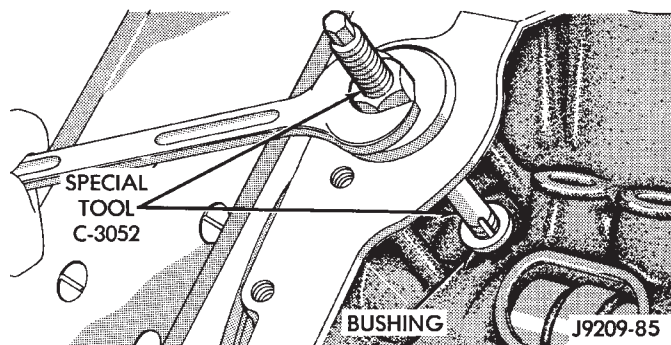

Fig. 33 Distributor Driveshaft Bushing Removal
- (1) Remove distributor, refer to Group 8D, Ignition Systems for the proper procedure.
- (2) Remove the intake manifold (refer to Group 11, Exhaust System and Intake Manifold).
- (3) Insert Distributor Drive Shaft Bushing Puller Tool C-3052 into old bushing and thread down until a tight fit is obtained (Fig. 33).
- (4) Hold puller screw and tighten puller nut until bushing is removed.